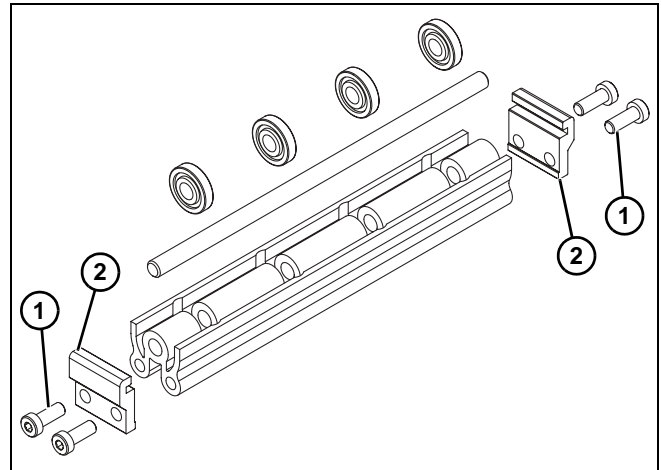

Figure 15
1. Locate return rollers. Exploded view shown in Figure 15.
2. Remove screws (Figure 15, item 1) and clips (Figure 15, item 2) from roller assembly.